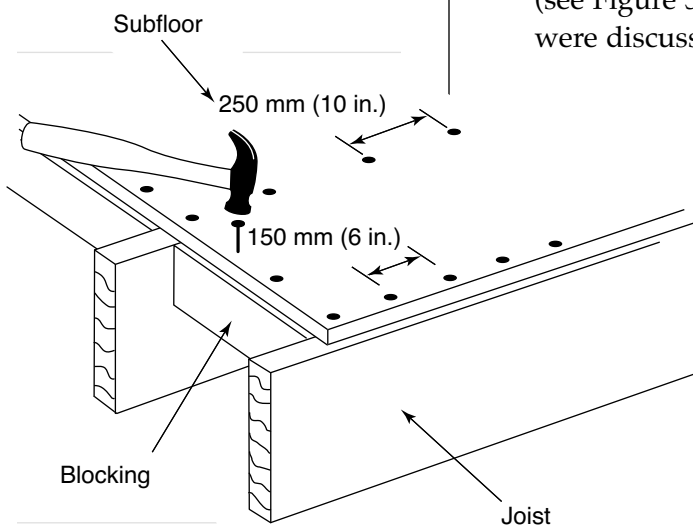

FIGURE 5
- ◆ Properly fastening the panel edges can reduce the amount of subfloor movement, especially when the fastening is done in combination with installing tongue-and-groove panels or placing blocking at panel edges. The NBC requires that fasteners be installed at 150 mm (6 in.) o.c. along edges and at 250 mm (10 in.) o.c. along intermediate supports. The manufacturers of subfloor panels recommend the same spacing for panel edges but some recommend 250 mm (10 in.) o.c. along intermediate supports (see Figure 5). The types of fasteners (nails, screws, staples, glue) were discussed in section 2.1.1.